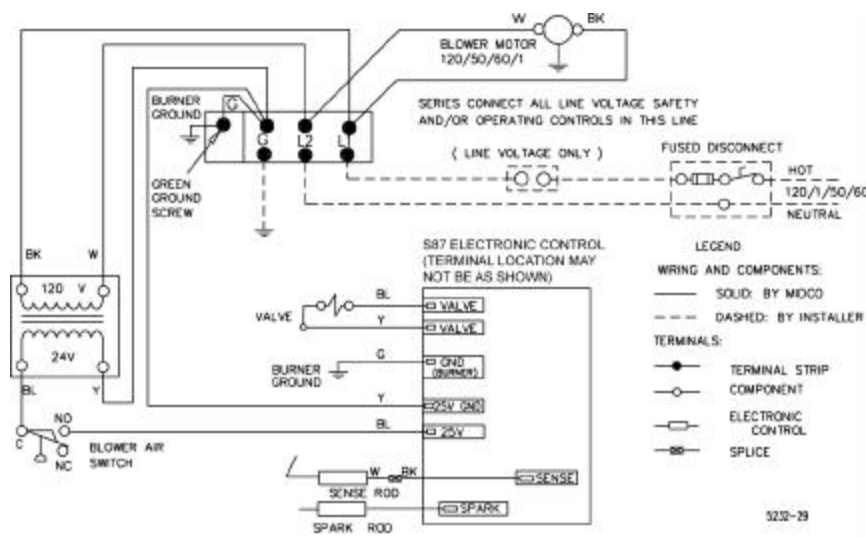

Figure 5: Wiring Diagram
**⚠ CAUTION:** Refer to wiring diagram in Figure 5 or located on the inside of the burner housing cover.